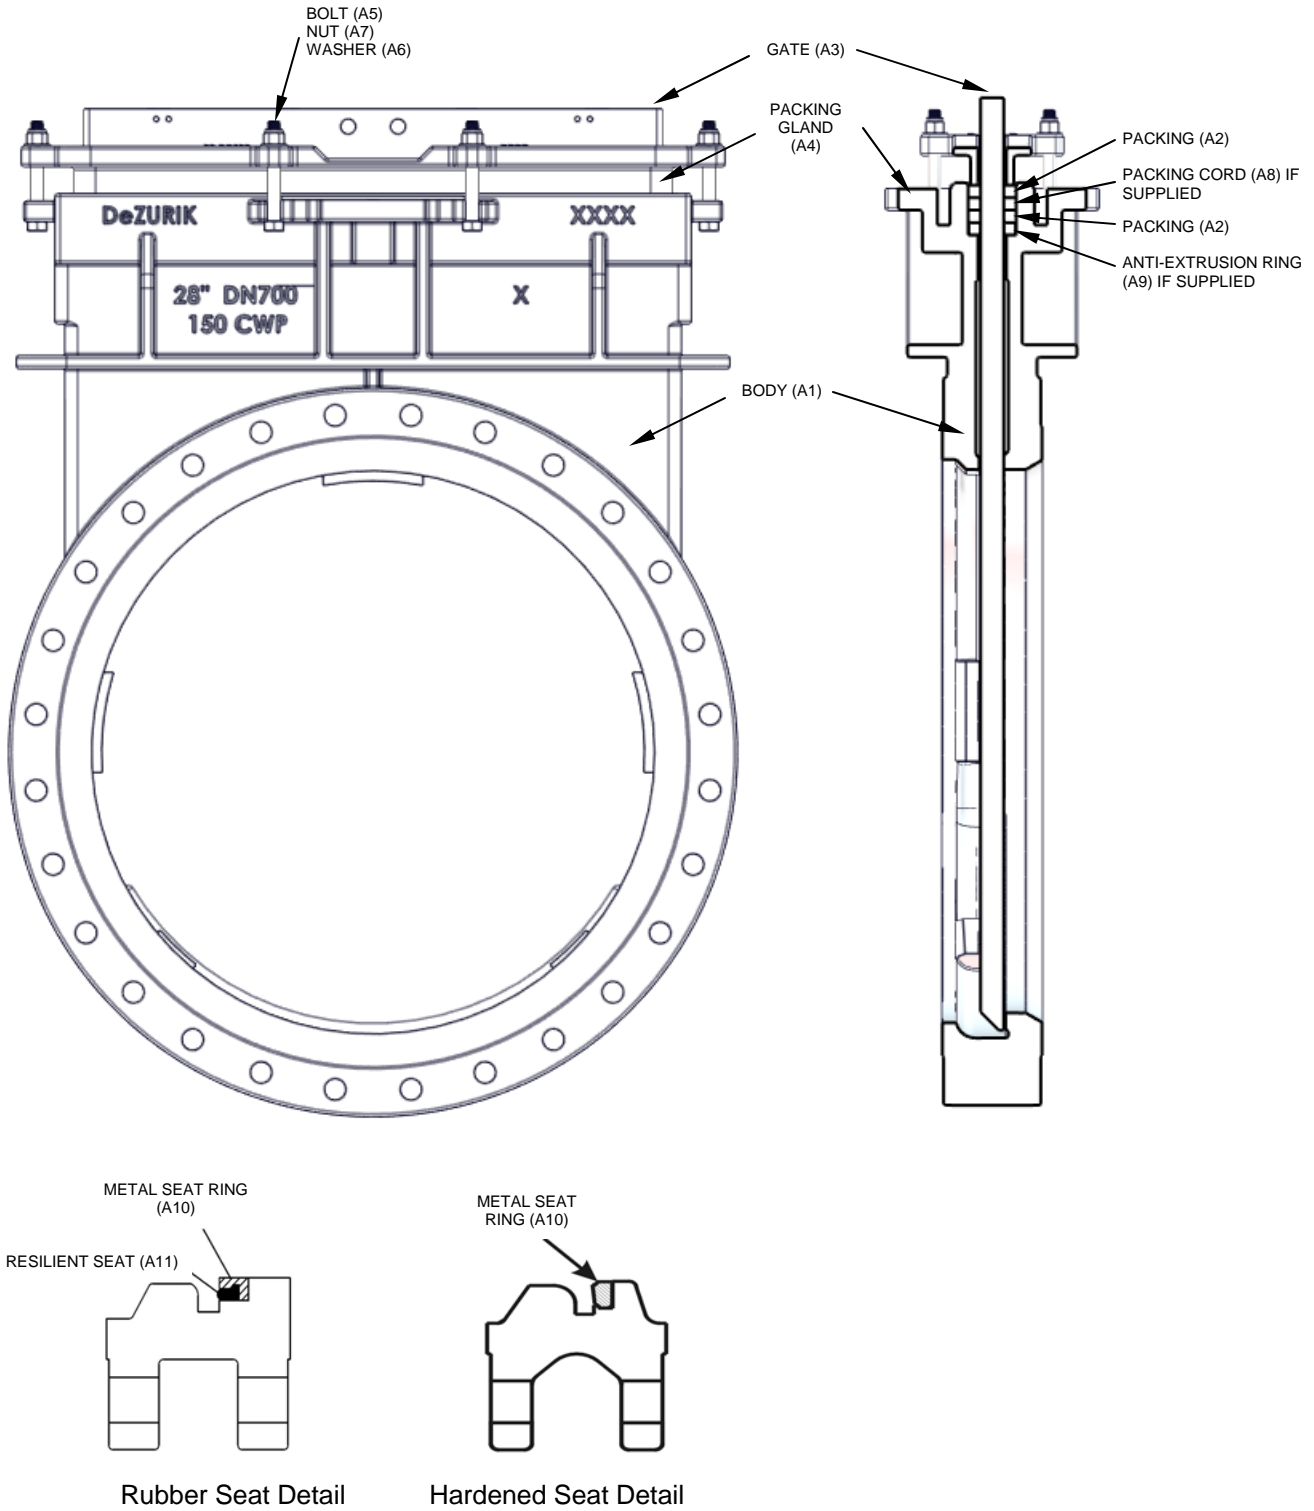

Figure 2—Component Identification
The gate packing is contained and compressed by the packing gland. See Figure 2 for component identification.
See Figure 2 for component identification.
1. Reassemble the gate (A3) in the body with the beveled edge facing away from the resilient seat. See Figure 2.